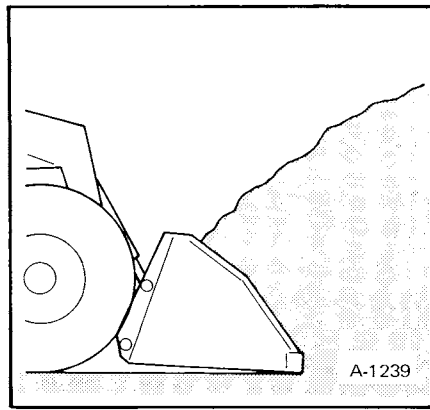

Fig. 18 Entering Pile
2. Drive forward to fill bucket (Figure 18).